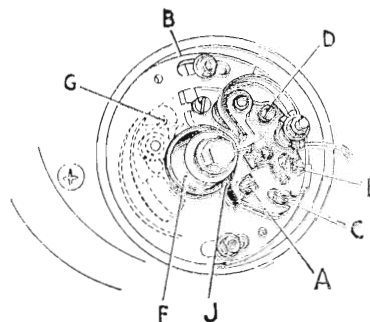

FIGURE 13.
CONTACT BREAKER (FIGURE 13)
Inspect the mechanism whenever the contact breaker gap is checked, and make sure that the two governor weights (FIG. 13) move freely. (Before removing the contact breaker plate, scribe a line across the plate and its housing so that it can be replaced in exactly the same position, otherwise the spark will have to be retimed).
Should adjustment be required, slacken the two screws (A) and (B) FIG. 13, which secure the plate carrying the contact breaker assembly and adjust the eccentric pin (C) until the points are just opening and the above condition obtained. Retighten the screws securely.
If the spark setting is not correct, slacken the two screws (A) and (B) Fig. 13, which secure the plate carrying the contact breaker assembly and adjust the eccentric pin (C) until the points are just opening.